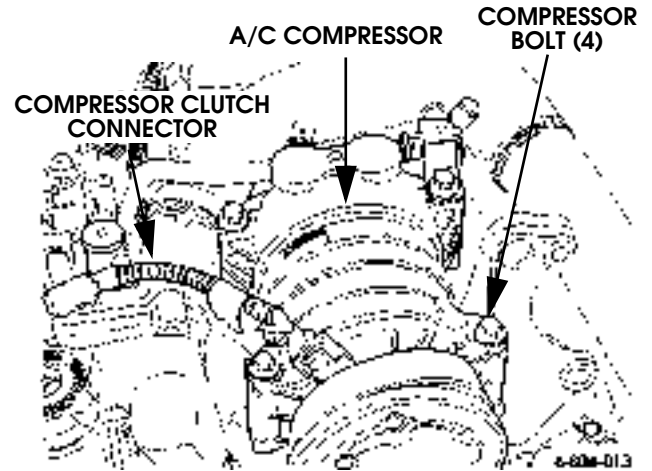

Figure 4-30: Compressor Clutch Bolt and Connector Location
5. Disconnect A/C compressor clutch wires (Figure 4-30).